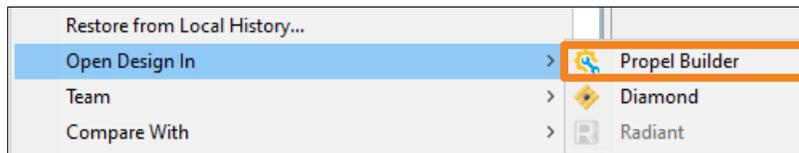

Figure 3.10. Project Explorer Popup Menu
- Right-click the SoC project from **Project Explorer**. Choose **Open Design In** > **Propel Builder** from the popup menu (Figure 3.10).